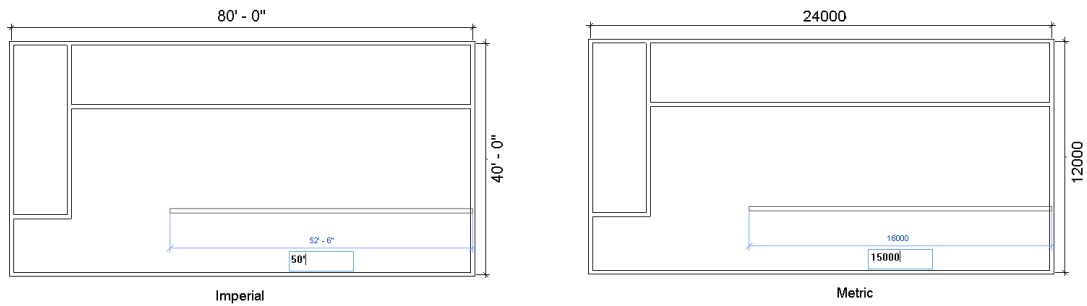

Figure 3-70 Specifying the distance for starting the interior wall segment
- Modify levels by renaming them, refer to Figure 3-70.
- Next, move the cursor in a horizontal direction toward the left. Enter 50'0" for Imperial and 15000 for Metric and then press ENTER, as shown in Figure 3-70. Ensure that the **Chain**